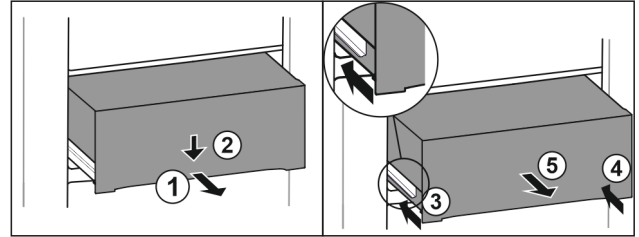

Fig. 111
- ▶ Pull out the drawer halfway. Fig. 111 (1)
- ▶ Press down the drawer on the front. Fig. 111 (2)
- ▶ Push in the left rail approximately 2 cm (13/16 in). Fig. 111 (3)
- ▶ Push in the right rail approximately 2 cm (13/16 in). Fig. 111 (4)
- ▶ Remove drawer to the front. Fig. 111 (5)